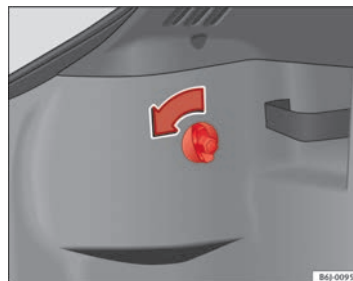

Fig. 162 Access to tail lights
- Turn the bolt in the direction of the arrow, by hand or with a screwdriver ⇒ fig. 162.
- Remove the connector from housing (A) ⇒ fig. 162.